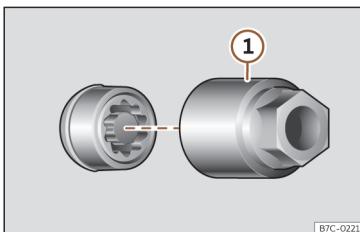

Fig. 33 Anti-theft wheel bolt with cap and adapter.
- Insert the special adapter >>> **Fig. 33 1** (vehicle tools) >>> page 41) onto the anti-theft wheel bolt and push it on as far as it will go.